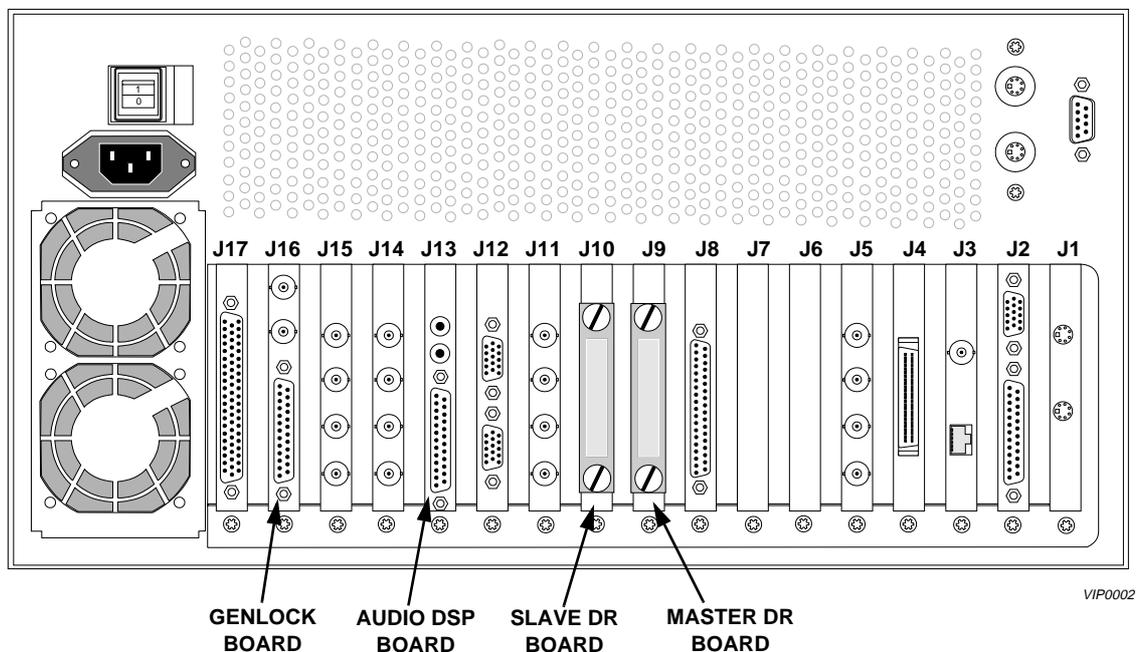

Figure 2.1 - Main Crate Board Slot Numbers
- Note that in the following steps, the board positions are referred to by their slot numbers from J1 to J17, numbered from *right to left* looking at the back of the Main Crate (see *Figure 2.1*, below).